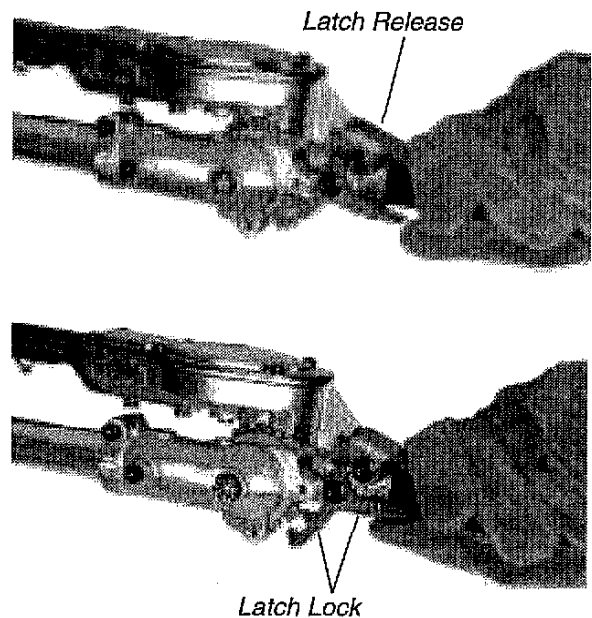

Figure 9
2. With the index finger of your left hand, press the latch release. With your left thumb, press the latch lock. See Figure 9.